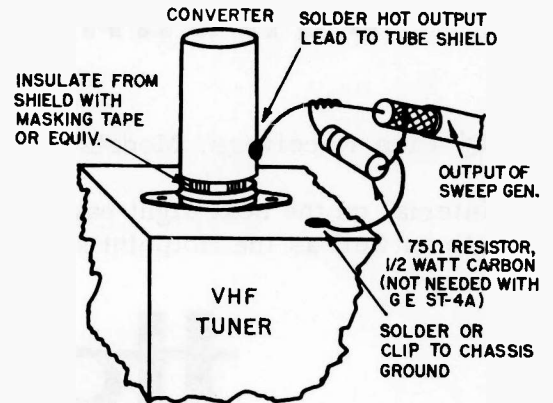

Fig. 10. I-F Sweep Jig
3. Connect sweep generator to converter stage using a test jig made up of an ungrounded tube shield terminated to ground as specified by the generator manufacturer. Users of General Electric test equipment need not terminate as the attenuator is terminated—see Fig. 10.